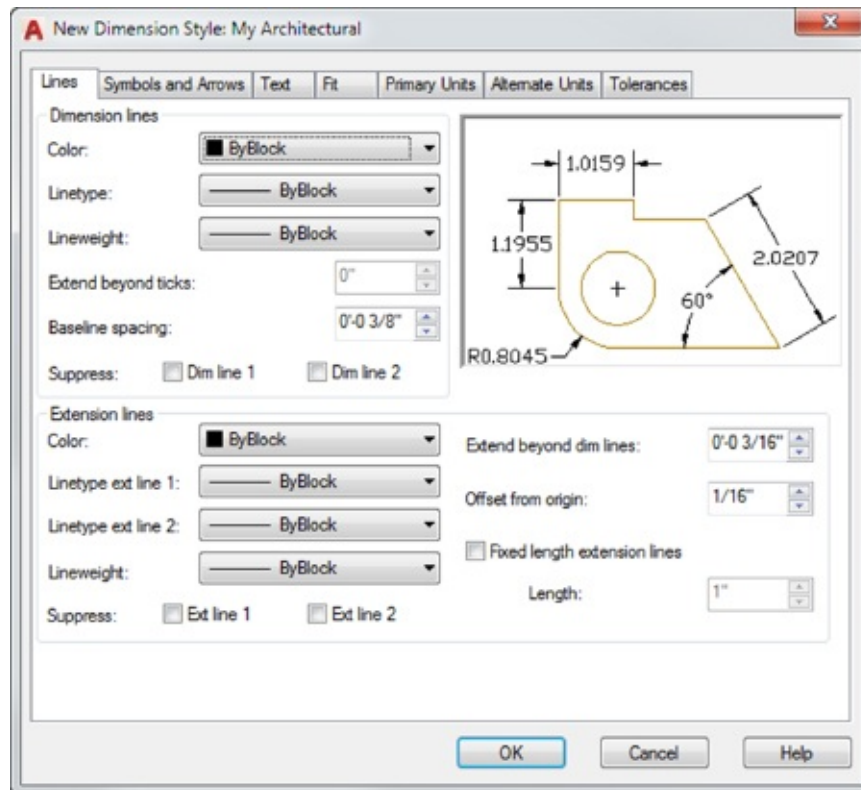

FIGURE 11.5 The New Dimension Style dialog box
7. Click Continue to open the detailed New Dimension Style dialog box (see Figure 11.5).